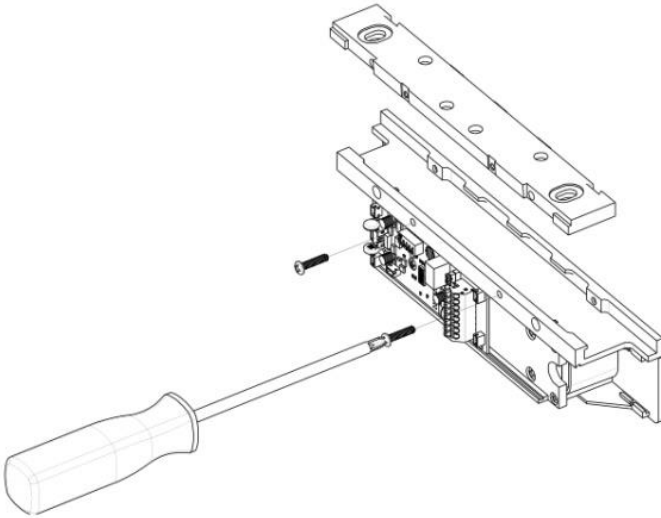

Figure 8. Removing the Securing Screws
1. REMOVE the two (2) screws securing lock to mounting bracket and SLIDE the bracket from the top of the lock chassis (see Figure 8, "Removing the Securing Screws").